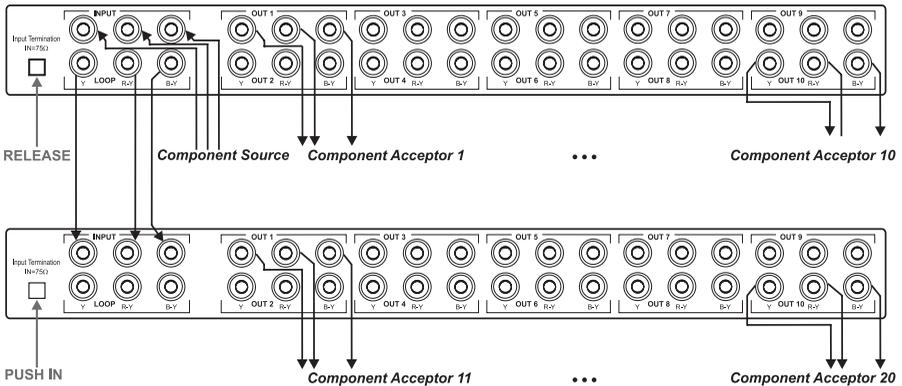

Figure 4: Connecting Several VM-100C Units
| Figure 4: | Connecting Several VM-100C Units | 6 |
You can connect several **VM-100C** units to form an expanded video component distributor. For example, as Figure 4 illustrates, connect two **VM-100C** units to form a *1:20 Video Component Distributor*.
5. Connect both power cords³ (not illustrated in Figure 4).